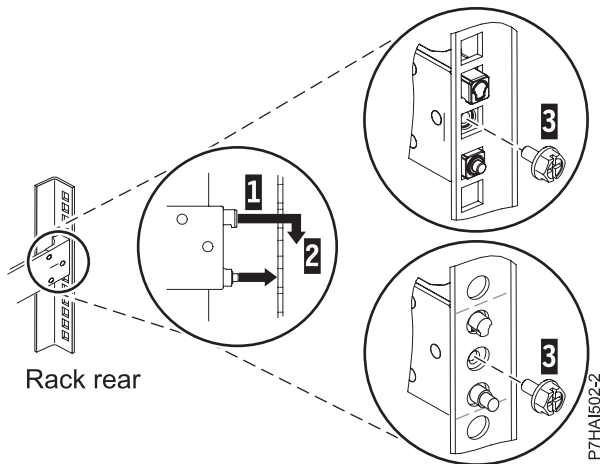

Figure 4. Aligning and engaging the pins into the holes in the rear of the rack
- Align the two pins on the rear of the slide rail with the top and bottom holes within the selected U that were previously marked. Pull the slide rail toward you to insert the two pins into the rack holes (1), and lower the slide rail down (2) to engage the hook feature on the top pin, as shown in Figure 4. Ensure the two pins protrude through the rack holes before proceeding to the next step.